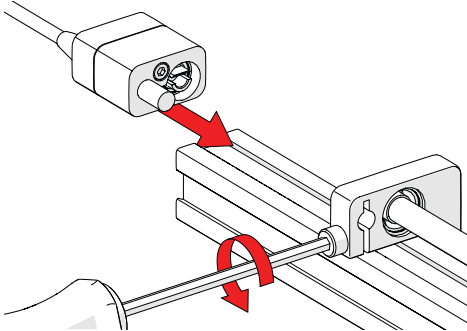

Fig. 44 - Loosen and slide post in place
1. To install the index encoder, loosen the clamp screw on the encoder with the supplied 3 mm hex driver (*Fig. 44*).